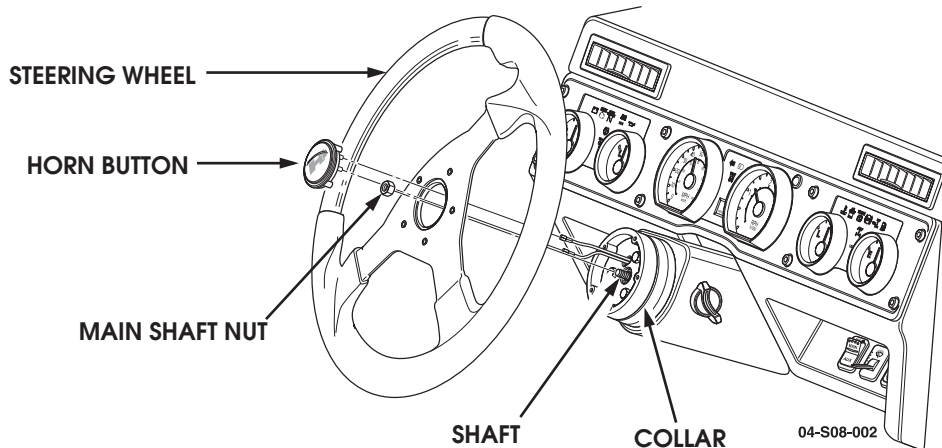

Figure 1: Steering wheel removal for 2004 and newer vehicles.
1. Remove the horn button by pulling it out of the steering wheel with your fingers (See Figure 1).